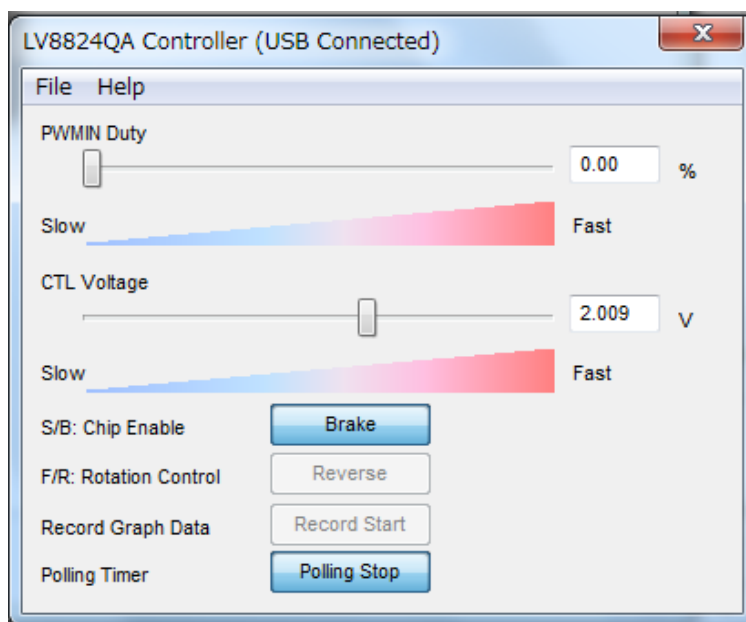

Figure 13. Controller window
- Controller window (Figure 13)